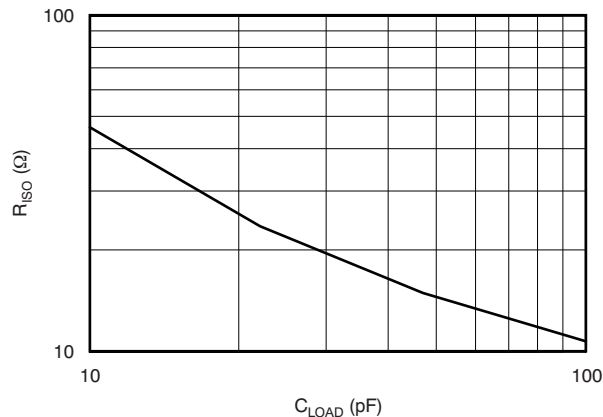

Figure 17.
The Typical Characteristics show the recommended R_{ISO} versus Capacitive Load performance (see Figure 17) and the resulting frequency response with a 1-k Ω load. Note that larger R_{ISO} values are required for lower capacitive loading. In this case, a design target of a maximally-flat frequency response was used. Lower values of R_{ISO} may be used if some peaking can be tolerated. Long PCB traces, unmatched cables, and connections to multiple devices can easily degrade the performance of the OPA653. Always consider this effect carefully, and add the recommended series resistor as close as possible to the OPA653 output pin (see the Board Layout section). With heavier loads (for example, the 100- Ω load presented in the test circuits used for testing the Typical Characteristics), the OPA653 is very robust; R_{ISO} can be as low as 10 Ω with capacitive loads less than 5 pF and continue to show a flat frequency response.
d) Connections to other wideband devices on the board may be made with short direct traces or through onboard transmission lines. For short connections, consider the trace and the input to the next device as a lumped capacitive load. Relatively wide traces (50 mils to 100 mils, or 1,27 cm to 2,54 cm) should be used. Estimate the total capacitive load and set R_{ISO} from the plot of *Recommended R_{ISO} vs Capacitive Load* (Figure 17). Low parasitic capacitive loads (less than 5 pF) may not need an R_{ISO} because the OPA653 is nominally compensated to operate with a 2-pF parasitic load.
Higher parasitic capacitive loads without an R_{ISO} are allowed as the signal gain increases (increasing the unloaded phase margin). If a long trace is required, and the 6-dB signal loss intrinsic to a doubly-terminated transmission line is acceptable, implement a matched impedance transmission line using microstrip or stripline techniques (consult an ECL design handbook for microstrip and stripline layout techniques). A 50- Ω environment is normally not necessary onboard, and in fact a higher impedance environment improves distortion as shown in the distortion versus load plots. With a characteristic board trace impedance defined based on board material and trace dimensions, a matching series resistor into the trace from the output of the OPA653 is used as well as a terminating shunt resistor at the input of the destination device. Remember also that the terminating impedance is the parallel combination of the shunt resistor and the input impedance of the destination device: this total effective impedance should be set to match the trace impedance. If the 6-dB attenuation of a doubly-terminated transmission line is unacceptable, a long trace can be series-terminated at the source end only. Treat the trace as a capacitive load in this case, and set the series resistor value as shown in the plot of *R_{ISO} vs Capacitive Load* (Figure 17). This configuration does not preserve signal integrity as